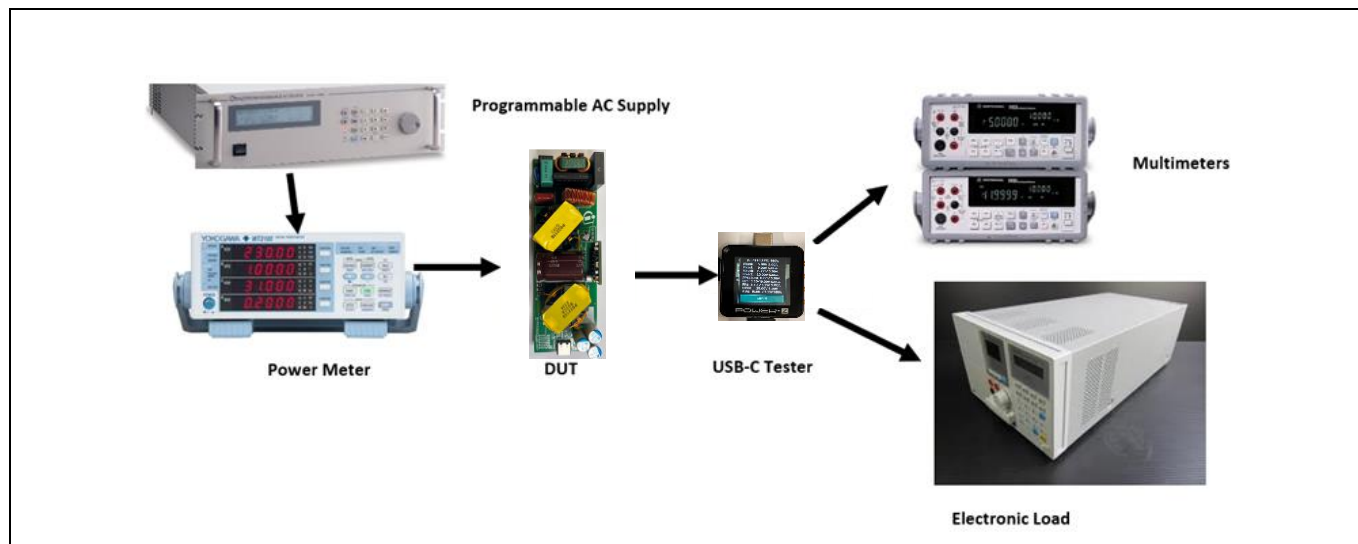

Figure 9 Test equipment connected to the standalone REF_140W_HFB_PAG2S Solution Board
Figure 9 shows the optimal test setup to capture the electrical data of the DUT and calculate the efficiency. The setup captures the following data:
2. Connect a USB PD tester or a power adapter tester (PAT) to the port and ensure that the USB PD tester gets a successful Power Delivery contact, as shown in Figure 9.